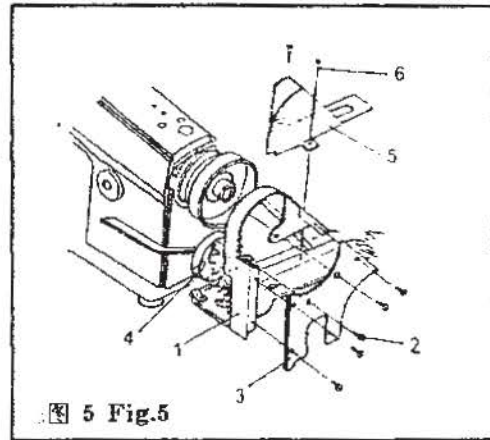

图 5 Fig.5
After fitting machine head and the belt, the thread winder can be fitted. In Fig. 5 when fitting winder, the winder wheel 1 should face the outside of belt 2. Between winder wheel and belt should have a certain clearance. If push down winder wheel stand 3, the winder wheel should touch the belt. And when balance wheel running, the belt can make the winder wheel run together, then tighten screw 4 to set the thread winder on the table.
(5) 防护罩的安装: (图 5)
(5) Installing the belt cover: (Fig. 5)